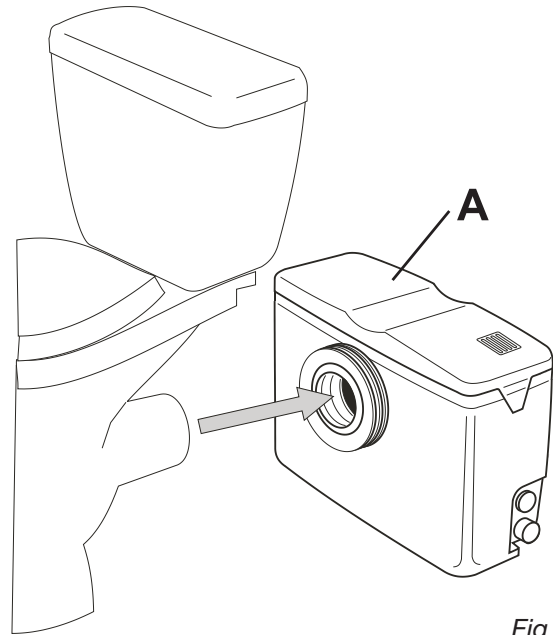

Fig. 3
Position the toilet in front of the Powerflush™ (A) and pull the black rubber sealing sleeve directly onto the toilet outflow pipe ensuring as much of the outflow pipe as possible is covered by the sleeve. (See Fig. 3)